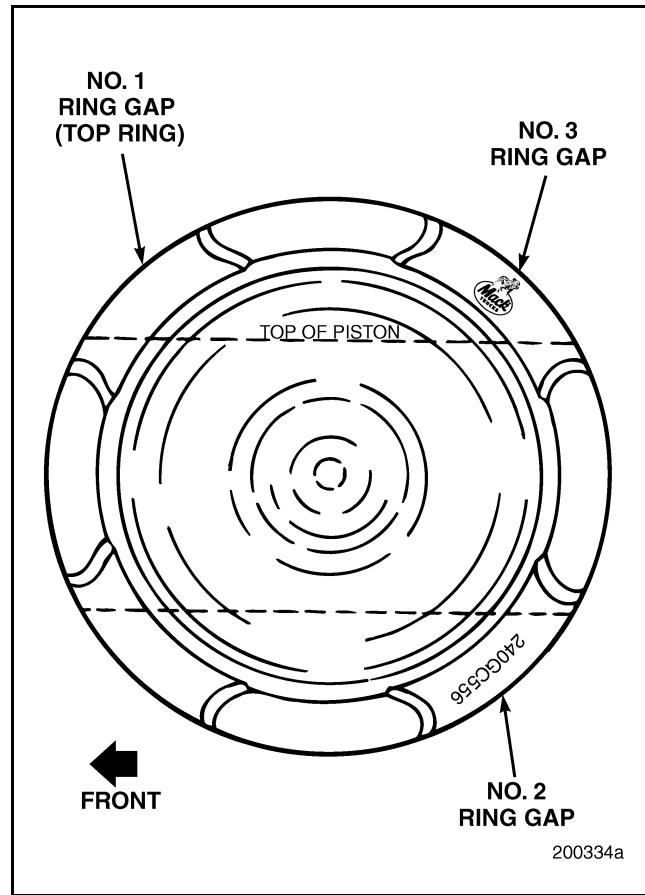

Figure 174 — Ring Gap Locations
2. Stagger the piston rings so that no ring gap is directly over the wrist pin bore, and no ring end gaps are aligned over each other (Figure 174).